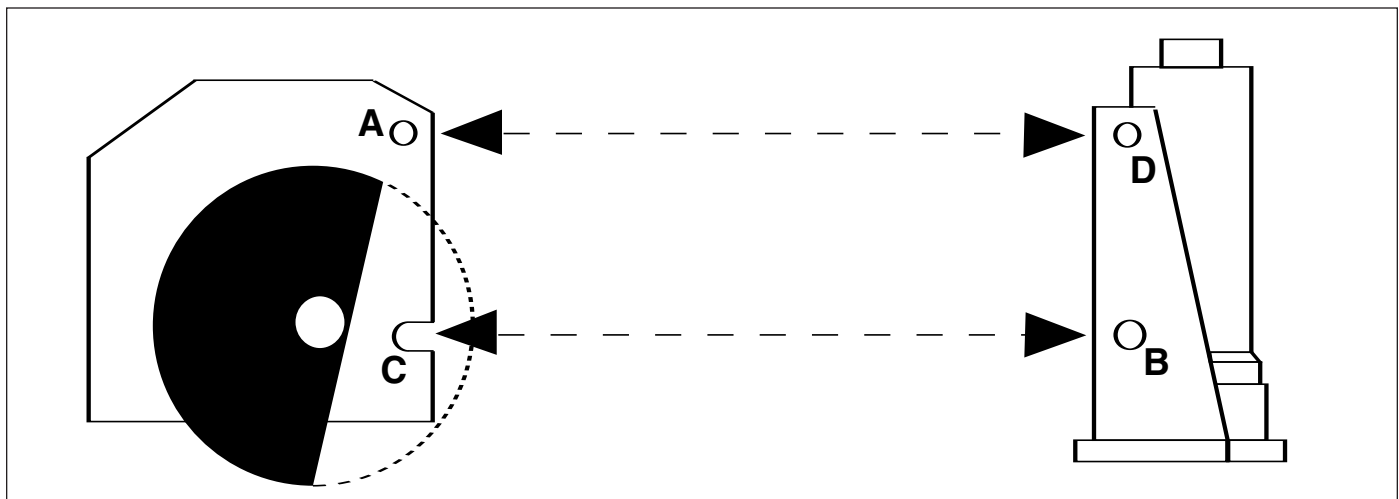

Figure 1
Refer to Figure 1.
1. Remove pin "A" from both sides of the cart. Refer to Figure 1.